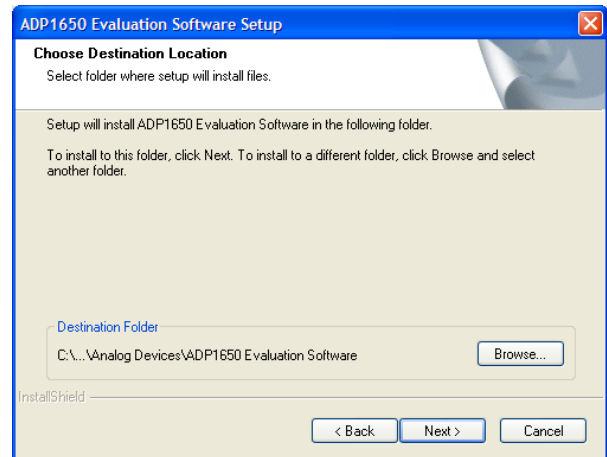

Figure 4. Installation Summary
3. In the box shown in Figure 4, click **Next** to install the files to the default destination folder, or click **Browse...** to choose a different location.